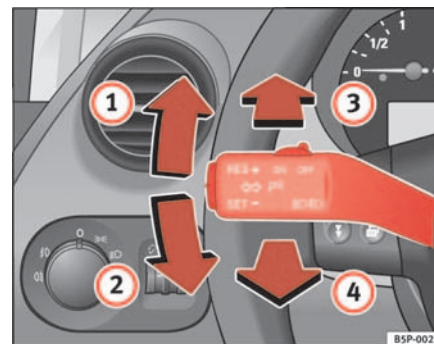

Fig. 77 Turn signal and main beam headlight lever
- Move the lever all the way up  $\Rightarrow$  fig. 77  $\textcircled{1}$  to indicate **right**, and all the way down  $\textcircled{2}$  to indicate **left**. ▶
- Press the lever forward  $\Rightarrow$  page 115, fig. 77 **3** to switch on the main beams.